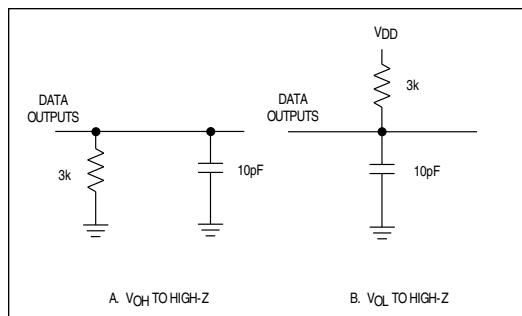

Figure 2. Load Circuits for Data-Hold Time Test
**Note 8:** See Figure 2 for load circuit. Parameter defined as the time required for the data lines to change 0.5V.